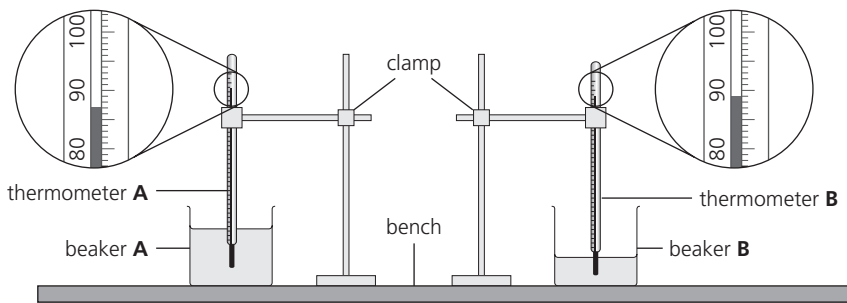

Figure 8
They are using the apparatus shown in Figure 8.
- a i 200 cm3 of hot water is poured into beaker A and the initial temperature rises to the value shown on thermometer A in Figure 8.
100 cm3 of hot water is poured into beaker B. The temperature rises to the value shown on thermometer B in Figure 8.